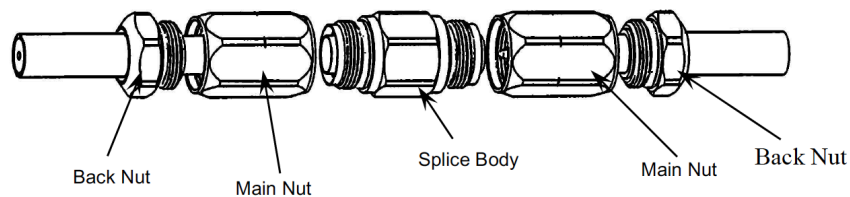

Fig. 6
4. Bring one of the connector **MAIN NUT** and **CABLE** to the connector **SPLICE BODY** as shown in Figure 6. Fully hand-tighten **MAIN NUT** to **SPLICE BODY** while keeping force on the cable towards the **MAIN BODY**.
5. Bring the second end of the connector **MAIN NUT** and **CABLE** to the connector **SPLICE BODY** as shown in Figure 6. Fully handtighten **MAIN NUT** to **SPLICE BODY** (do not allow Splice Body to rotate), while keeping force on the cable towards the **MAIN BODY**.